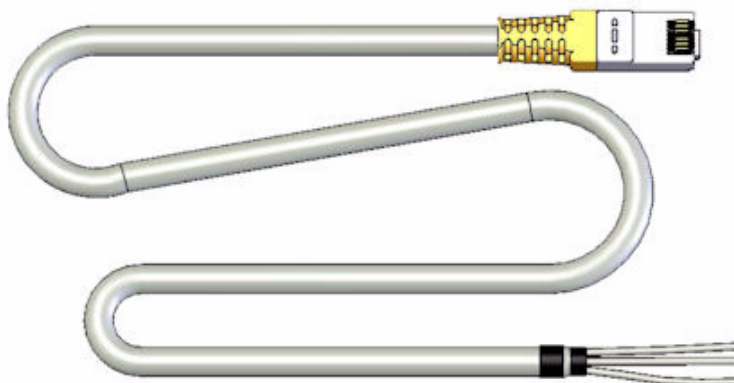

Figure 1-5: DC Power Injector Cable
- **DC IN:** For connection to the DC power source via the supplied cable (see Figure 1-5)